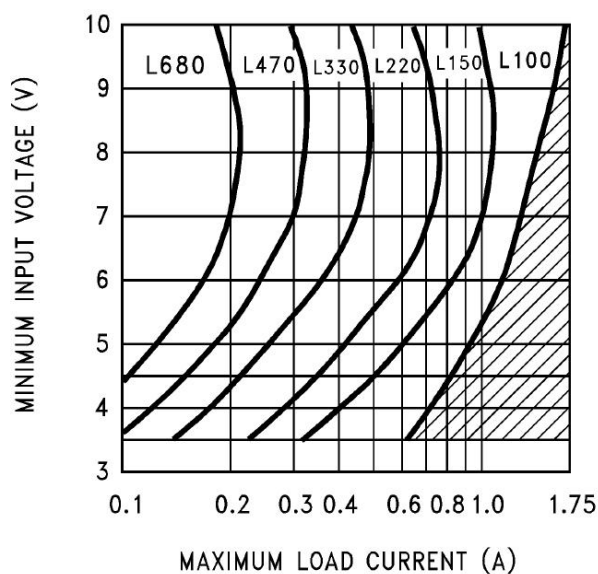

FIGURE 7. LM2577-12 Inductor Selection Guide
1. For 12V or 15V output From Figure 7 (for 12V output) or Figure 8 (for 15V output), identify inductor code for region indicated by $V_{IN(min)}$ and $I_{LOAD(max)}$. The shaded region indicates conditions for which the LM2577 output switch would be operating beyond its switch current rating.